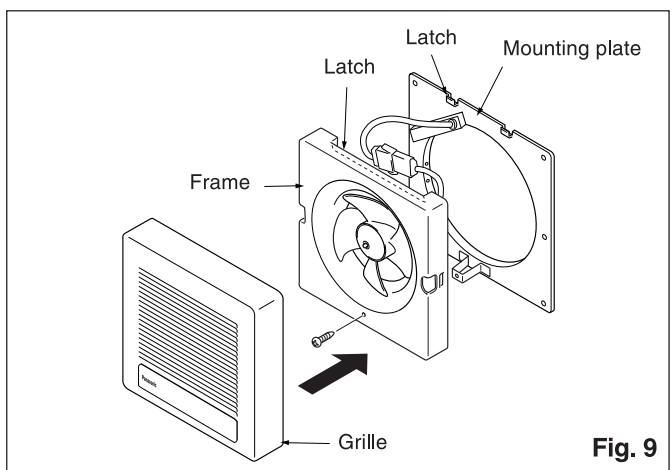

Fig. 9
11. Attach the electrical connectors to each other, hook the frame latches onto the mounting plate latch, and secure the fan unit to the mounting plate with the supplied screw (screw III). (Fig 9)